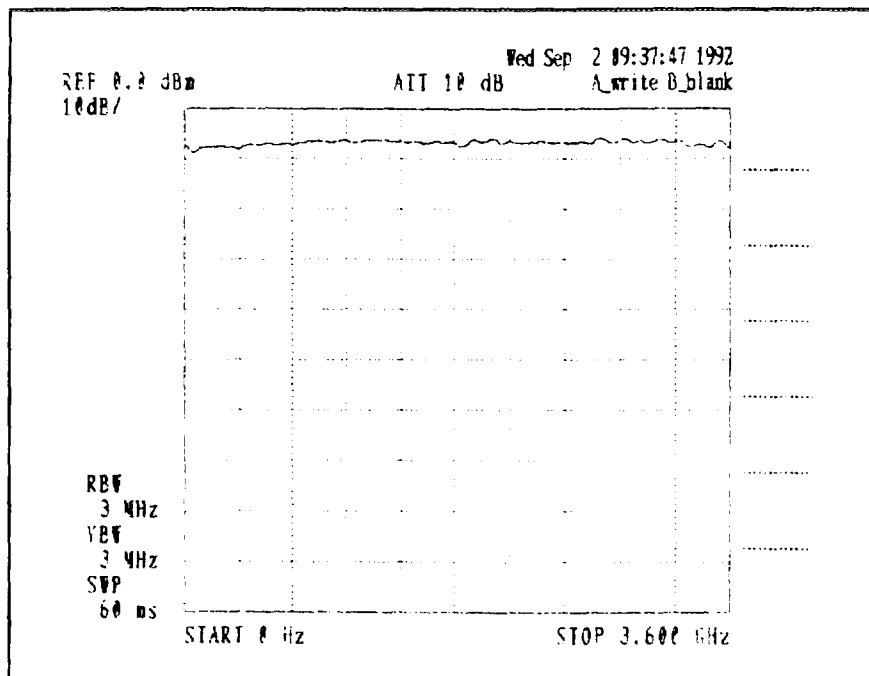

Figure 4-23 Trace of the feedthrough characteristic
- Make sure of the position of the trace on the display, and adjust that position to the suitable grid area as is shown below in Figure 4-23.